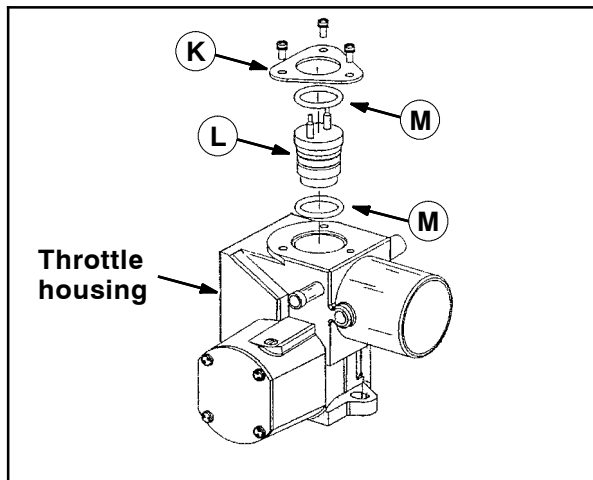

FIG. 6
9. Remove the injector retaining plate (K) from the throttle housing. Refer to Fig. 6.
10. Remove the injector assembly (L) and both o-rings (M) from inside the throttle housing. Refer to Fig. 6.
11. Apply a light coat of grease to the o-rings included with the new fuel injector (12).
13. Insert the new fuel injector (12) and larger o-ring into the throttle housing. Be sure the o-rings are seated inside the throttle body.
14. Reinstall the injector retaining plate (K) onto the throttle body. Be sure the injector plate is not bent before reinstalling it onto the throttle body. Flip the retaining plate over if it is bent. Refer to Fig. 6.